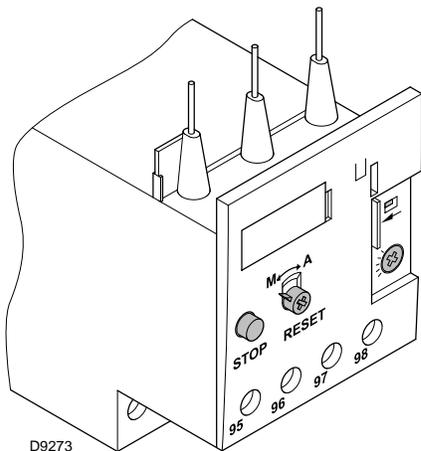

Fig. 31
The electro-mechanical thermal relay (Fig. 31) is used to avoid damage to the motor owing to a strong increase in absorption or the lack of a phase.
- To reset, in the case of an intervention of the thermal relay, press the button "RESET" (Fig. 31).
- The button "STOP" (Fig. 31) opens the NC (95-96) contact and stops the motor.